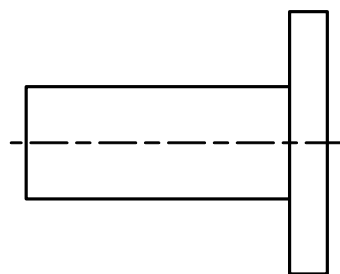

Fig.3
- a) Weld the flanges to the straight pipe runs considering that the axis of each straight pipe run is perpendicular to the flange plain adjacent to the MF (fig.3)